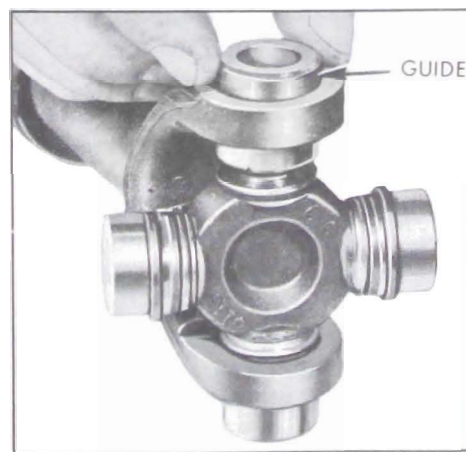

Figure 6-101—Installing Guide on U-Joint
5. Release pump and propeller shaft. Install Guide J-9522-8 through the bearing hole in the yoke and over the journal end of the spider. See Figure 6-101. This guide assures alignment of the spider while removing the opposite bearing.